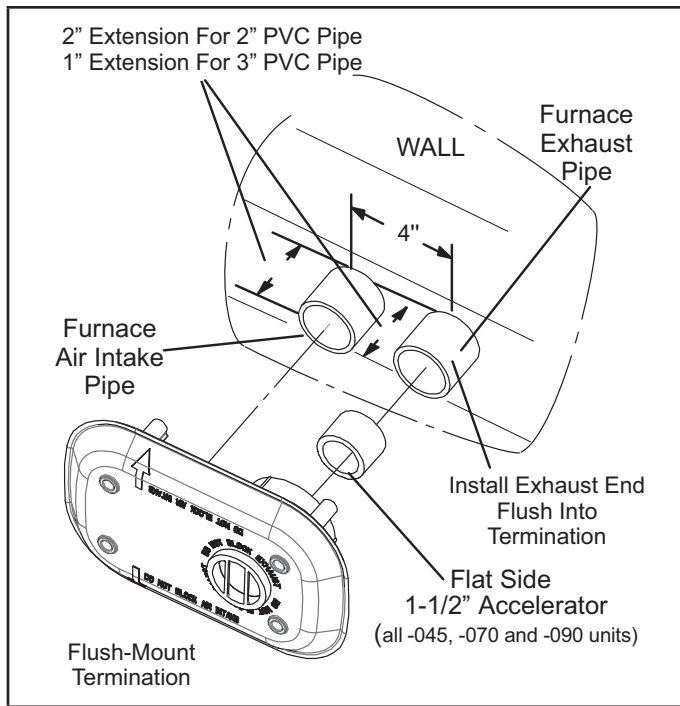

FIGURE 3
- 5 - When determining pipe length, include the length of exhaust and intake pipes that extend beyond the wall and are flush into the flush mount termination. For 3" pipe add an extra inch to the overall length. For 2" pipe add an extra 2" to the overall length. See figure 3.
- 6 - The 1-1/2" accelerator must be used for all -045, -070 and -090 unit installations. Fully insert and glue the accelerator (flat side first) into the 2" exhaust opening. See figure 3.
- 7 - Install the intake pipe and exhaust pipe through the holes drilled in step 4 and into the flush mount-termination. Exhaust pipe may be glued but it is not necessary. See figure 3. Seal all openings as indicated in figure 5.